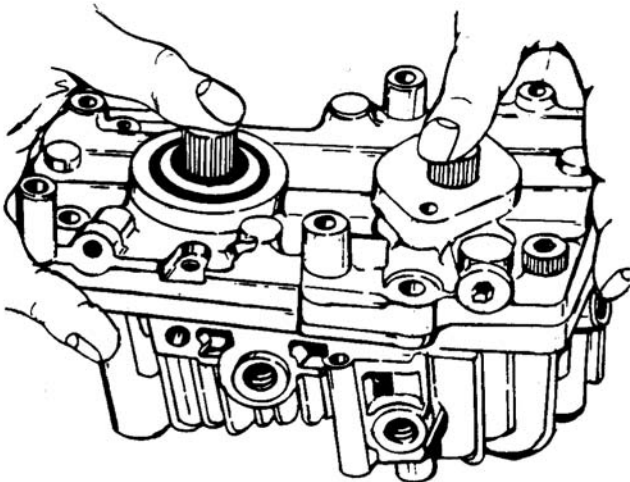

Figure 6-62. Installing Center Section
- e. Place center section onto housing. Take care not to damage center section and housing. See Figure 6-62.